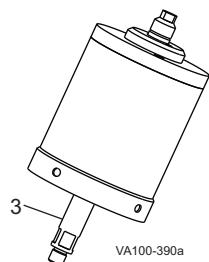

Figure 45: Pull Lower Stem
2. Pull the lower stem (Figure 45, item 3) to remove the caged spring assembly from the actuator cylinder.